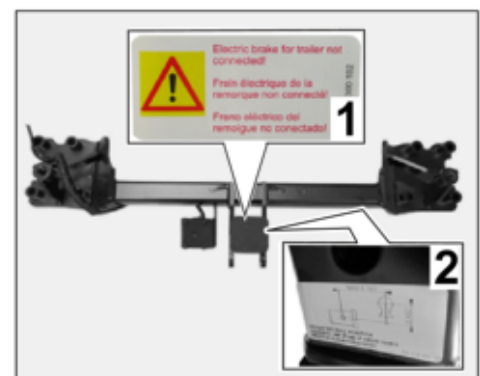

Figure 16
- 2.7.2 Affix sticker showing the warning "Electric Brake for Trailer not connected" on a clean surface at a clearly visible position next to the "Ball Position" sticker or the dashboard ⇒ *Figure 16*.